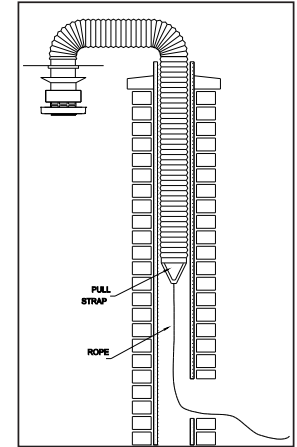

Figure 4
3.1 Tie a rope to the PULL STRAP & drop other rope end down the chimney. See Figure 4. The pull strap is factory installed.